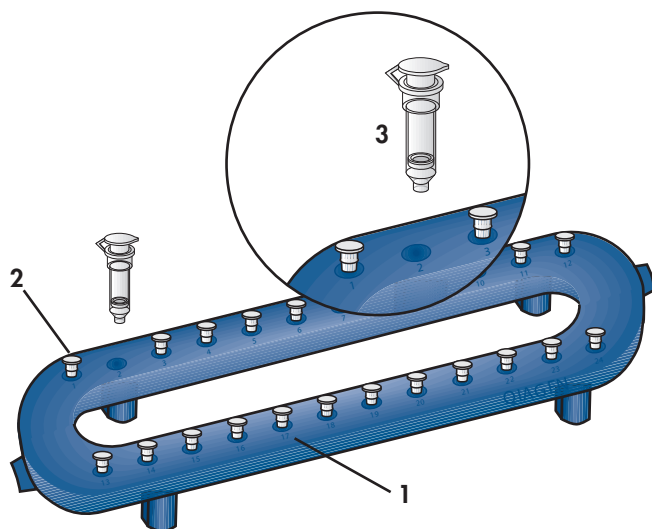

Figure 7. QIAvac 24 Plus. Setting up the QIAvac 24 Plus with QIAprep[®], QIAquick, MinElute, or RNeasy[®] Mini Spin Columns.
- 4a. QIAvac 24 Plus (see Figure 7, page 32):**